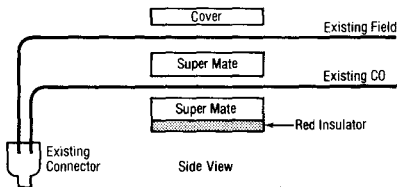

Fig. 19—Converting (Side View)
- (1) Provide sufficient slack to rework conductors.
- (2) Set-up MS2 4041 Splicing Head.
- (3) Lay pairs into Super Mate Modules. Make sure that all existing C.O. and field conductors are placed in corresponding wire channels in each Super Mate Module. See Figure 19.